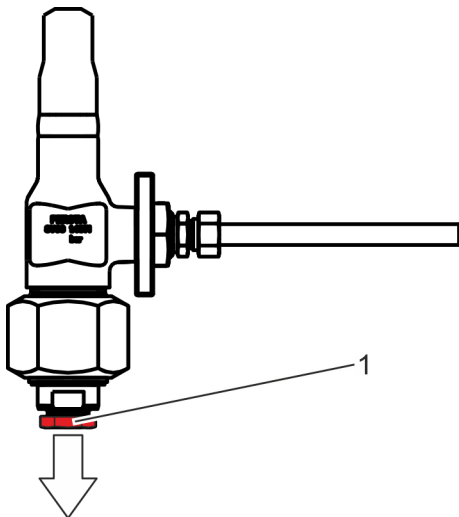

Fig. 15: Blow-out nozzle
2. → Fit safety systems to collect and drain the medium that escapes from the blow-out nozzle (Fig. 15/1).